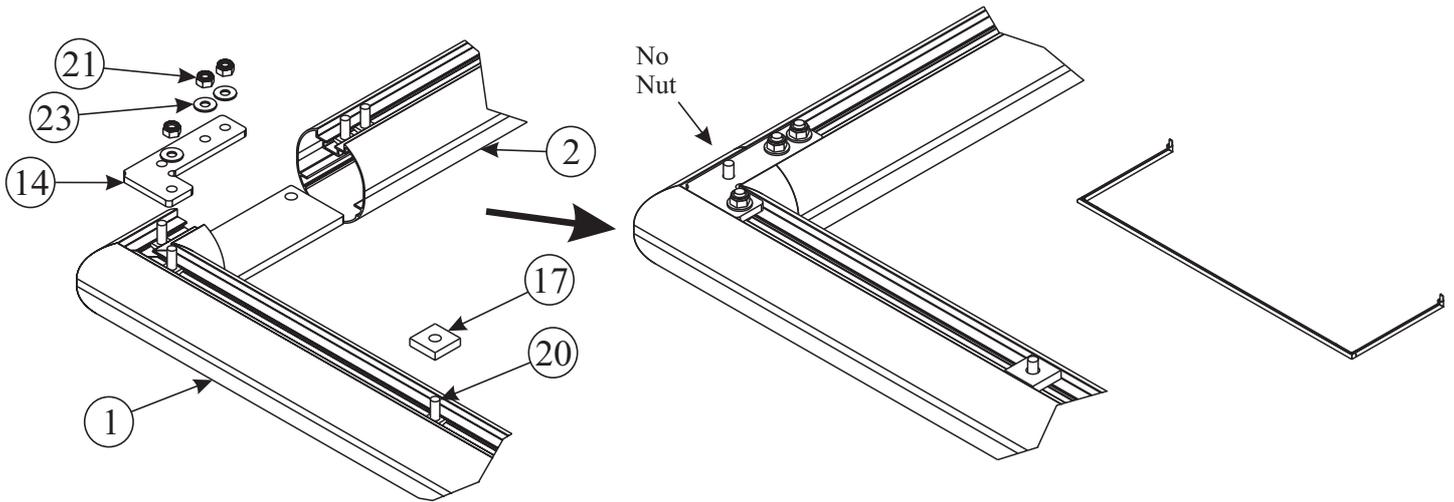

Fig 1 Exploded
**1 Crossbar and Uprights** - Lay the Crossbar and Uprights on the ground with the slots facing upwards and Slide 3 Square Head Bolts into the slots at both ends of the Crossbar, and 2 Square Head Bolts into the end of each Upright. Fit together using 'L' Plate, washers and bolts as shown in Fig 1.